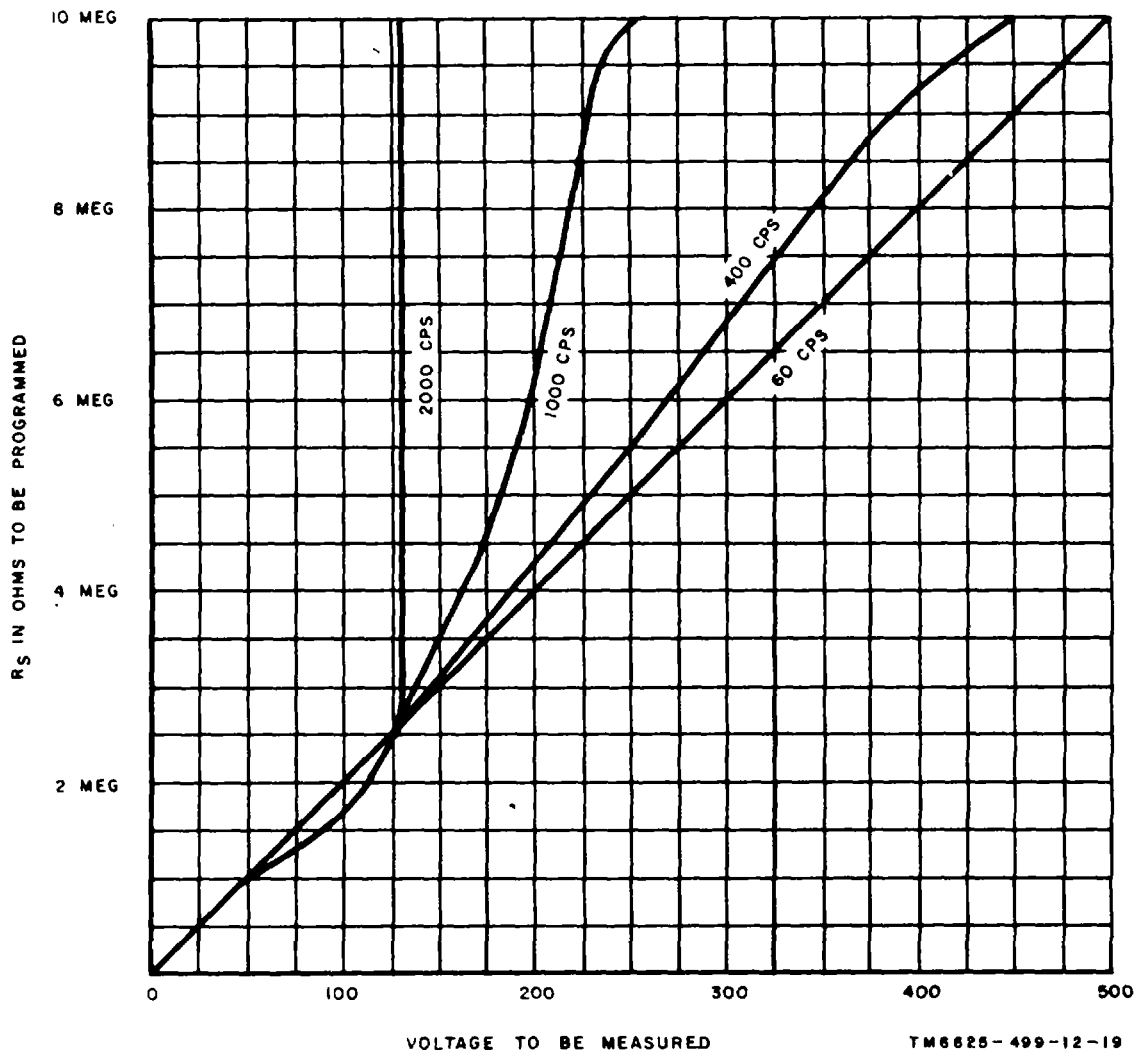

Figure 15. Ac frequency response.
a. A sample program sheet is illustrated in A, figure 10. The information on the sheet is obtained from a schematic diagram of the unit to be programed. From the schematic diagram select the two points (*from* and *to*) at which the test is to be made, and determine the function and the value of resistance to be programed for the internal standard resistance. For 60-cps ac, or the dc voltage measurements, the internal standard resistance is obtained by multiplying the measured voltage value by 20,000. When measuring ac voltages at frequencies other than 60 cps, some inaccuracy will result. Figure 15 contains a graph on which voltages of 60,400, 1,000 and 2,000 cps are plotted. To use the graph, find the voltage to be measured on the appropriate frequency curve, bring this point out to the left of the graph and read the standard resistance to be programed. For insulation resistance (H1), the minimum insulation resistance value is divided by 1,000 to determine the proper value of internal standard. For resistance or impedance measurements, the internal standard resistance is obtained by calculating the total resistance or impedance value. The next step is to determine the tolerance and tolerance limit for the particular test. Tolerance can be selected either as *less than* (<), *greater than* (>), or *plus or minus* (\pm). A test programed as *less than* (<) would indicate that the value being measured will pass if it is equal to or less than the programed value plus the percentage of tolerance selected. A test programed as *greater than* (>) would indicate that the value being measured will pass if it is equal to or greater than the programed value minus the percentage of tolerance selected. In cases of insulation resistance measurements, the *greater than* (>) tolerance limit is normally used.